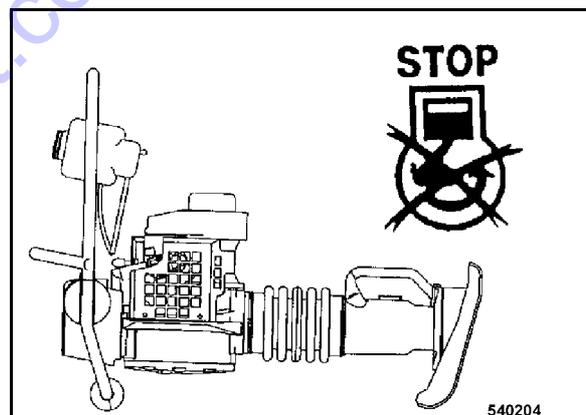

Fig. 29
- Transport the tamper only lying down (Fig. 29) on the castors.